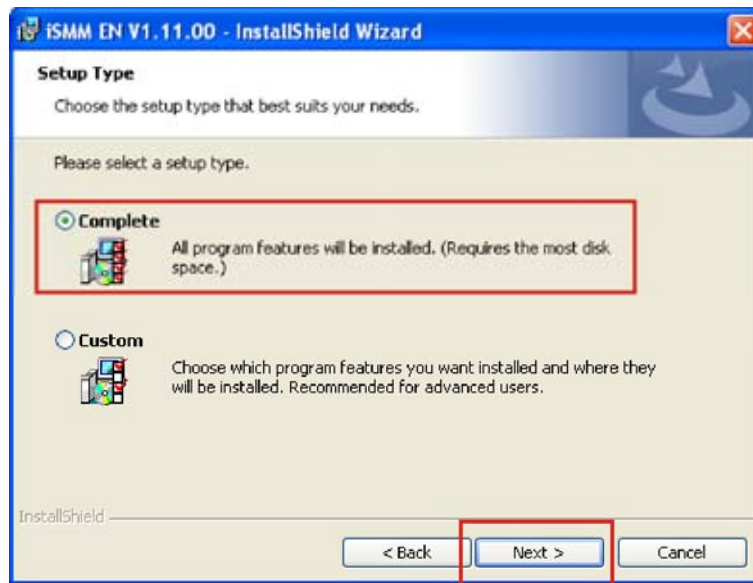

Figure 7-34: iSMN Setup Type
Step 78: The **Setup Type** screen appears. (Figure 7-34)
Step 79: Select **“Complete”** (Figure 7-34)
Step 80: Click **NEXT** to continue. (Figure 7-34)